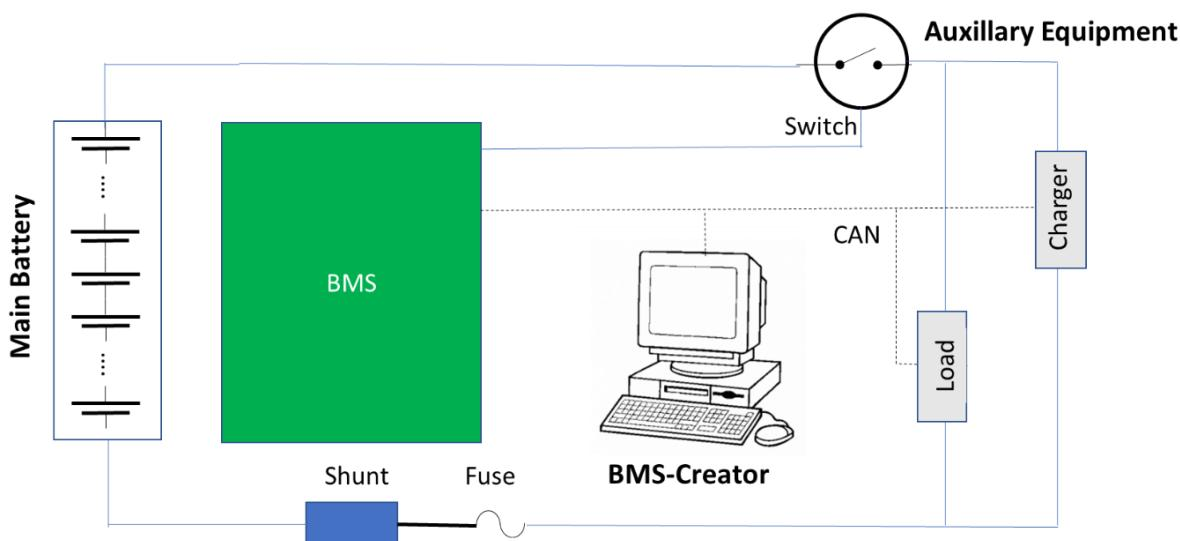

Figure 6.1: Example of a basic battery configuration and the key auxiliary components used
To provide the desired functions and ensure safe battery system operation, the BMS must be well integrated with the other components in the battery system. An example of a typical battery system is shown in Figure 6.1 below.
1. Cell voltages and temperatures are monitored directly by the BMS together with the battery current. Please note that if a shunt is used for current monitoring, the shunt must be placed at the negative side of the battery as shown in Figure 6.1.
4. Switches are included in the main battery power circuit, between the battery terminals and the load/charger. For safety reasons, at least one switch is MANDATORY to assure that overcharging or discharging can be stopped even if BMS communication (item 2 and 3 in this list) fails.
Please note that in the BMS, the shunt detection circuits are internally referenced to the most negative battery voltage (HV-). Consequently, the shunt MUST always be placed on the negative side of the battery pack as shown in Figure 6.1. Otherwise, the BMS may be irreparably damaged.